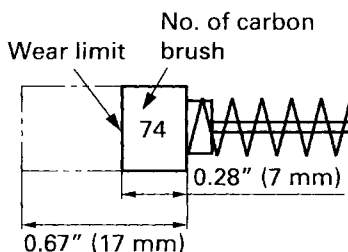

Fig. 12
3. Inspecting the carbon brushes (Fig. 12)
NOTE: Use HITACHI carbon brush No. 74 indicated in Fig. 12.